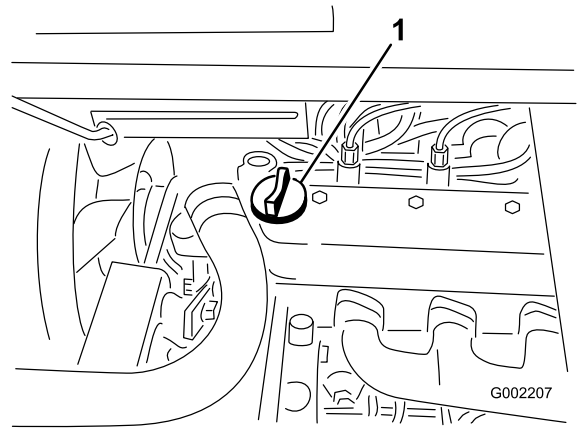

Figure 41
3. If the oil level is low, remove the filler cap from the valve cover (Figure 41) and pour oil into the opening until the oil level is up to the Full mark on the dipstick; refer to Servicing the Engine Oil for the proper oil type and viscosity. Add the oil slowly and check the level often during this process. Do not overfill.